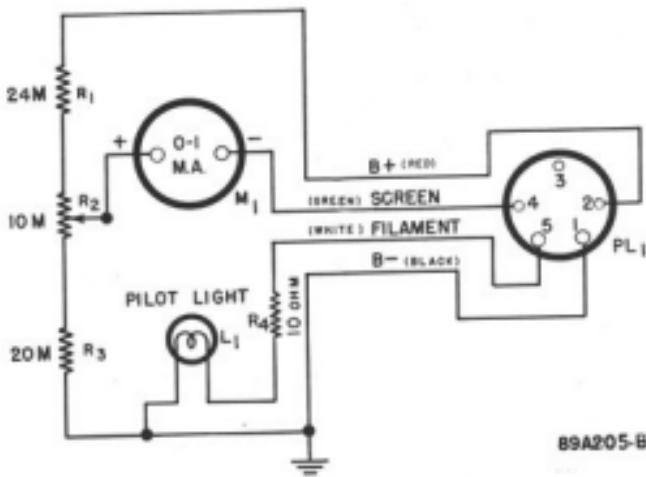

Figure 7. Tuning meter SM-40 and schematic wiring diagram.
(1) See that the tubes are securely seated in their sockets. Refer to Figure 7 for the proper location of each tube.
(2) Check the pilot lamps located behind the dial escutcheons and see that they are securely in place.
(3) Check all external connections. See that they are secure and make positive contact. Remember that an improvised installation gives improvised results.
REPLACING TUBES AND DIAL LAMPS.—When replacing tubes, check the tube type carefully and replace with the correct type. Refer to the top of the receiver chassis, Fig. 7, to determine the location of each tube. The receiver employs two dial lamps with bayonet type sockets to illuminate the two dial scales. Replace these with similar types, 6.8 volt, 250 ma., "blue head" G.E. #47 or equivalent. The color code referred to is the color of the glass head above the glass stem inside the envelope of the lamp.